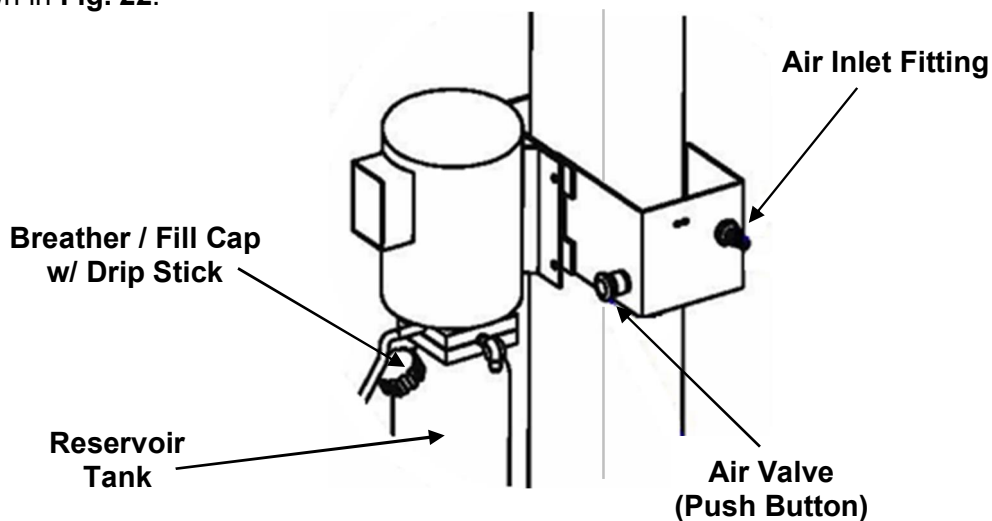

Fig. 22
- 3) Mount Air Valve and the Air Inlet quick disconnect fitting to the holes in the Control Bracket, as shown in **Fig. 22**.
- 4) Remove Breather / Fill Cap to add Hydraulic Oil (SAE-10, AW 32) to Power Unit Reservoir Tank, Add to Min. fill line on Drip Stick, approx. 13 to 14 quarts, **Fig. 22**. **Do Not Use ATF!!**
- 4) If Lift Does Not Raise to Full Height, additional hydraulic fluid may be required. If required, first ensure the lift is fully lowered, then check fluid level using the Dip Stick on Reservoir, Fig. 22. **NOTE: Only add oil in small increments, never adding hydraulic fluid past the Max Fill Line on Drip Stick.**